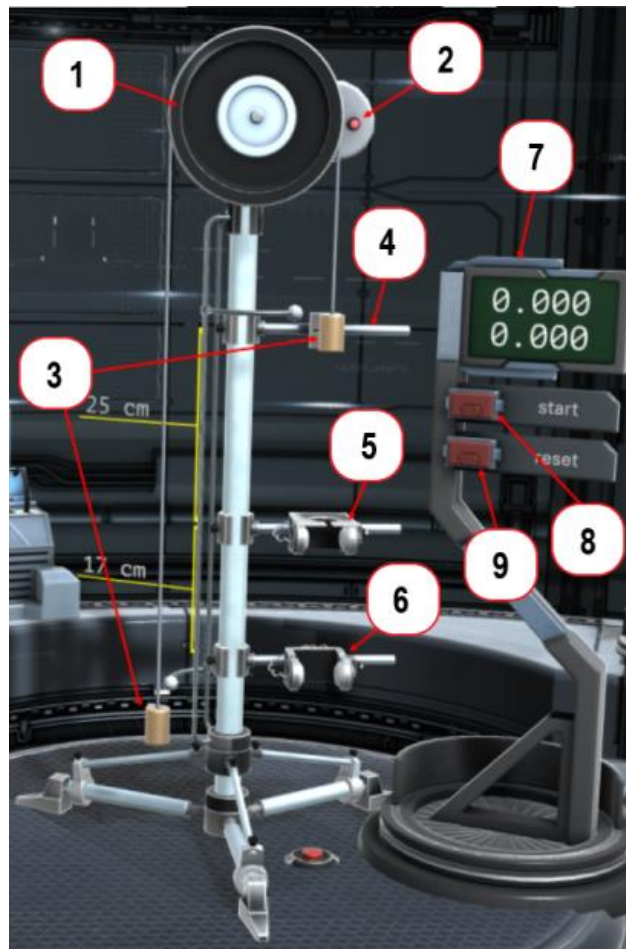

Figure 13 –Atwood Machine system
The Atwood Machine virtual installation consists of the following elements (Figure 13):
If the masses of the weights are equal, then the system is in a state of equilibrium regardless of the position of the weights. To change the mass of the weights and set the system in motion, use overloads (see 5.2 Overloads). During the study, the overload on the right weight is removed by a plate with a hole installed on the photosensor (5 in Figure 13).
The **Experiment Control** panel consists of the following elements (Figure 13):
- 1) Upper timer — from the rail with the start of the movement mark (4 in Figure 13) to the photosensor with the plate (5),
- 2) Lower timer — from a photosensor with a plate (5 in Figure 13) to a photosensor without a plate (6).
To start the movement of the installation, press the **Start** button (8 in Figure 13). For more information about the operating procedure of the installation, see 5.1.3 Installation operating procedure.
To return the installation to its original state and reset the received data, press the **Reset** button (9 in Figure 13).
The initial state of the Atwood machine is considered to be the state of the system in which (see Figure 13):
To start the system, press the **Start** button on the **Experiment Control** panel (8 in Figure 13).
To return the system to its original state, press the **Reset** button on the control panel (9 in Figure 13).